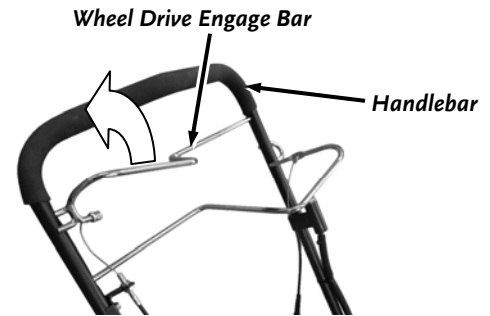

Figure 15
1. Bring the Wheel Drive Engage Bar toward you and the Handlebar (**Figure 15**). The closer to the Handlebar you move the Bar the faster the machine will travel. The machine will continue to move forward until you release the Bar.